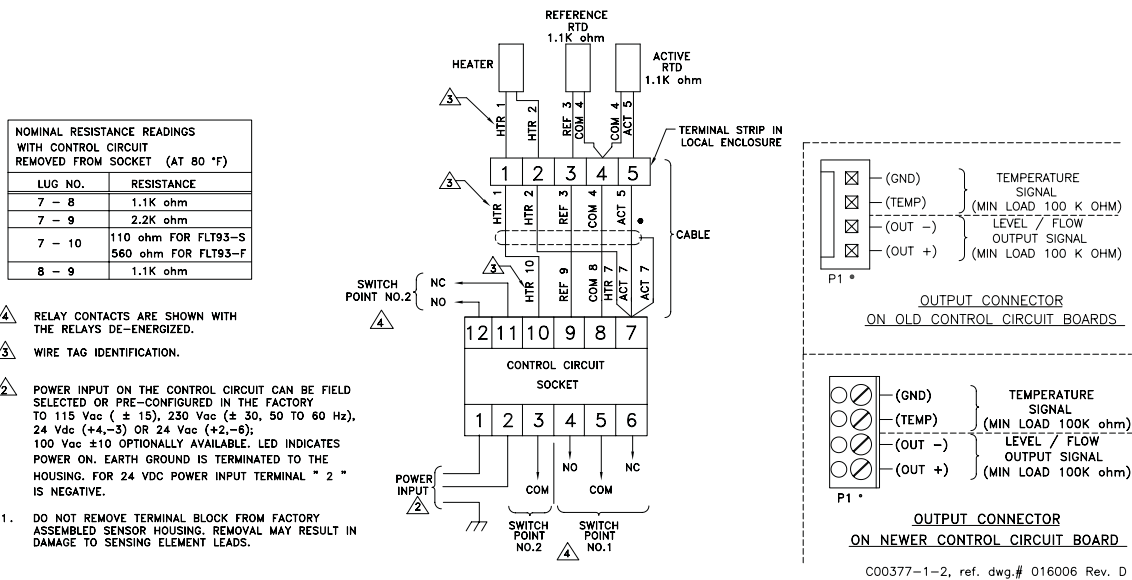

Figure 2-6 Remote Wiring Diagram
3. Wire between the local and remote enclosures according to Figure 2-6.
4. When connecting the relay wiring, do so with complete understanding of what the process requires of the instrument. The instrument has dual SPDT or single DPDT relay output contacts dependent on the jumper configuration for each alarm switch point. For the relay logic, refer to Figure 2-6. Also refer to Table 3-5 and Table 3-6 in Chapter 3 - Operation. Relay contacts are shown with the relays de-energized. Wire in accordance with the system requirements.